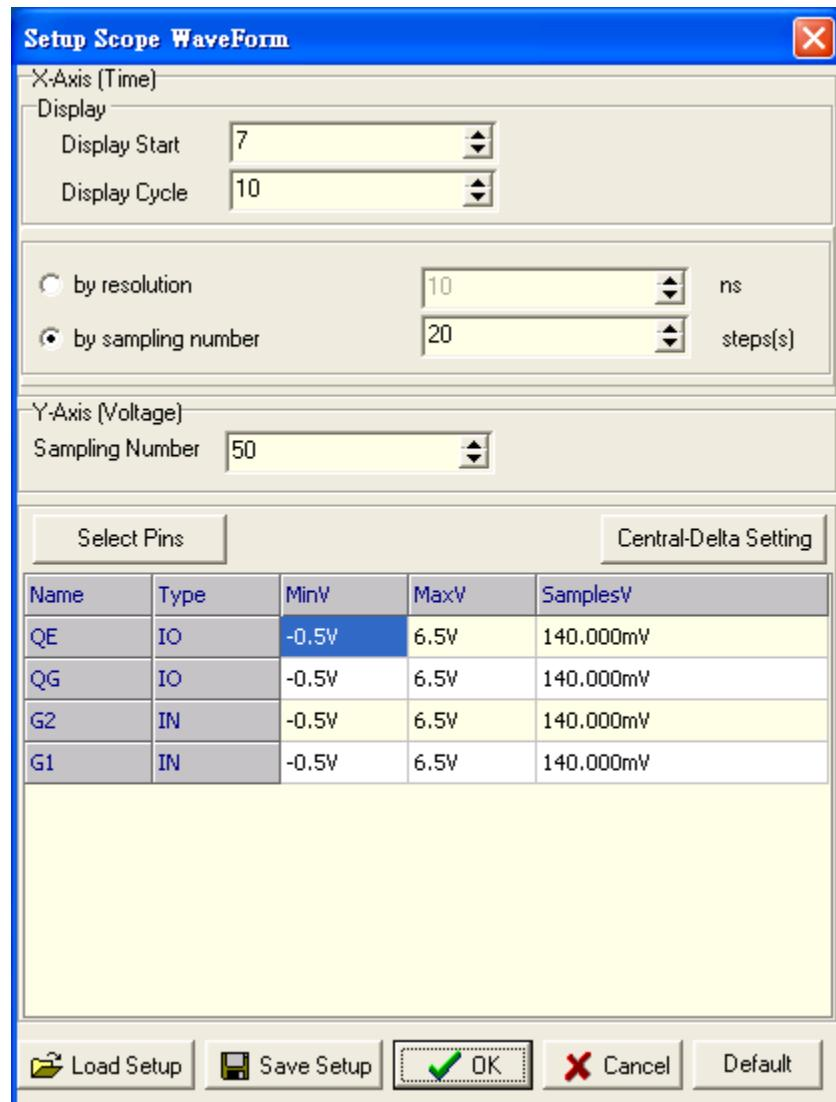

Figure 13-4 Scope Waveform Parameter Setup Window
- (1) From scope waveform setup window, make necessary parameter entries (see Figure 13-4).
- (2) Click **OK** button to finalize the parameter input. At the moment, the parameters are set up in this manner.